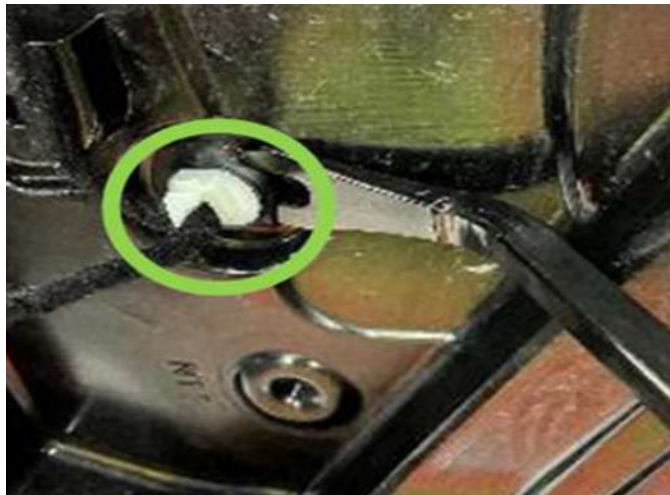

Fig. 19
21. Remove the wire harness clips located below the crash sensor Fig. 19.